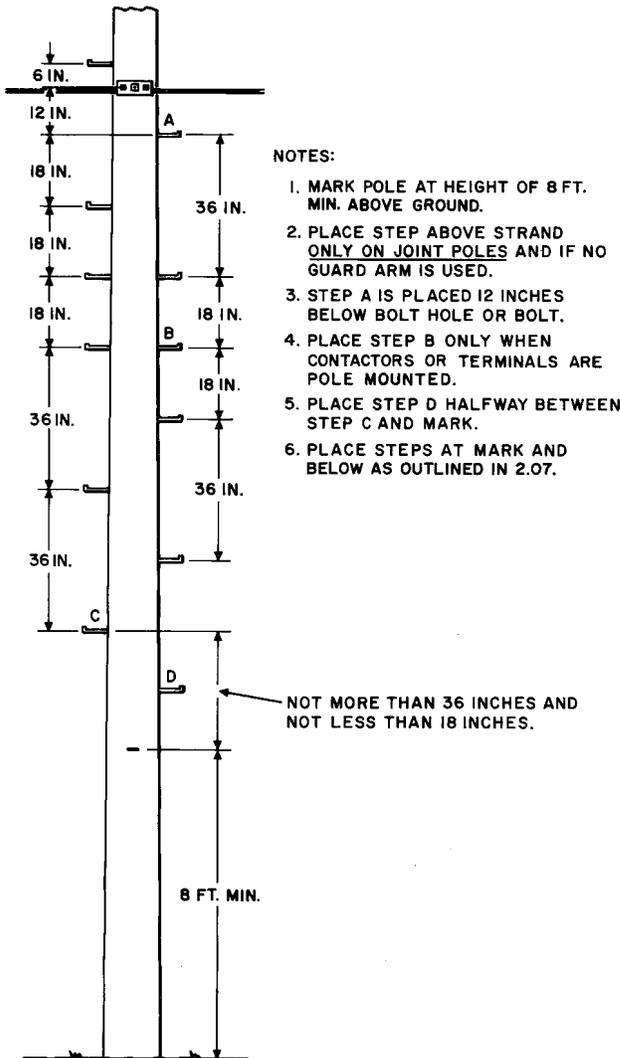

Fig. 17—Steps on Poles Supporting Equipment
8.01 Poles at which pressure testing or bypass valves and contactors or contactor-terminals are located, and poles from which such pressure equipment is reached shall be stepped as in Fig. 17.